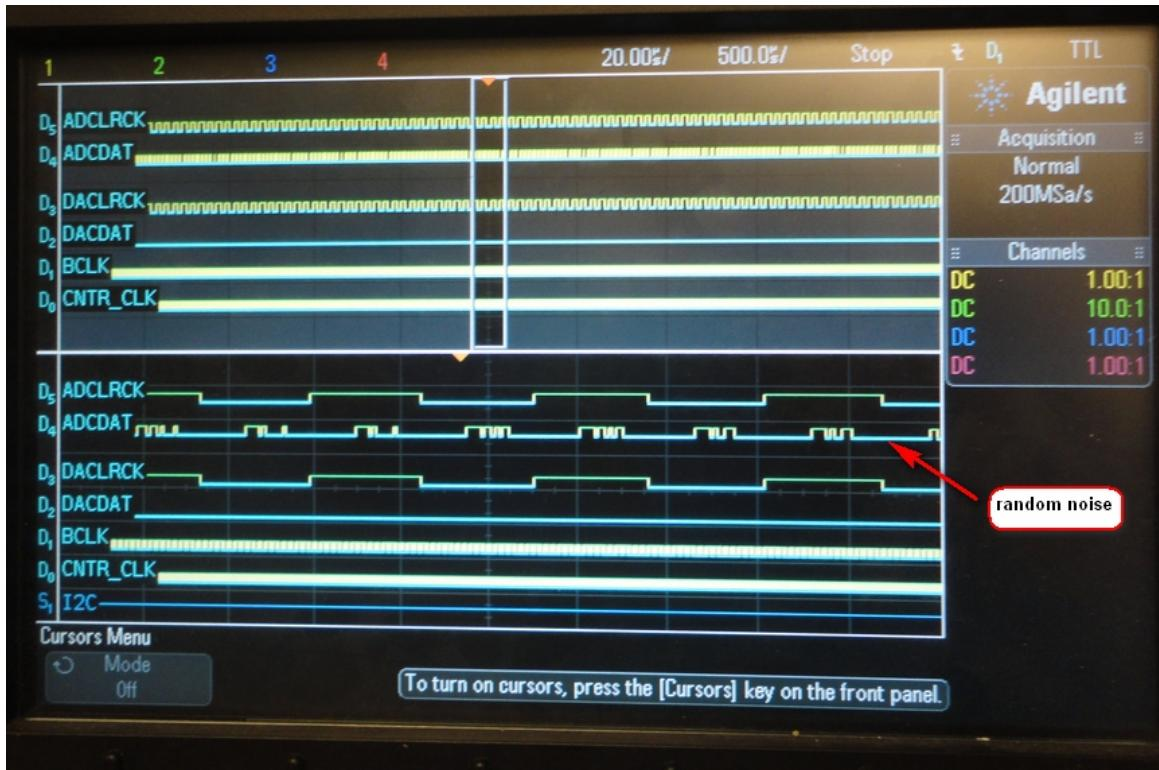

Figure 105 - Zoomed out view of the left right channel enables for the I2C format
The result should look similar to **Figure 105**.
- When observing the trigger event in **Figure 105** we see that the signals are behaving in this manner. This indicates that the serial I2C internal registers have been properly programmed.